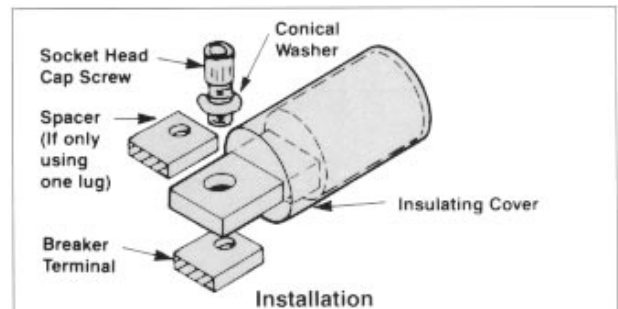

Figure 3
- Slip insulating cover over connector tang and then over connector barrel so that only the connector tang is exposed (Figure 3).
- Position connector tang on top of the circuit breaker terminal pad and secure with 3/8-16 x 1 1/2 in. socket head cap screw and conical spring washer. Conical spring washer is to be installed with convex side of washer toward underside of screw head (Figure 3). Torque screw to 228 in-lb.